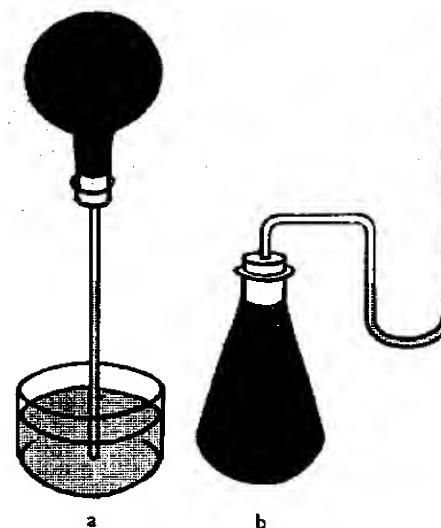

Fig. 239
A flask covered with matt black paint may be used as an infra-red detector. The air-filled flask is connected to a length of glass tubing in either of the two ways indicated in Fig. 239. *Can you explain what happens in each case when infra-red rays strike the flask? (4)*